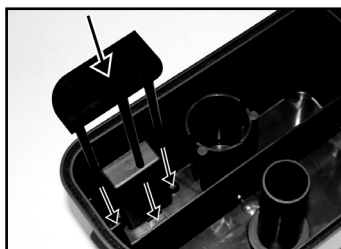

FIGURE 4
4. Insert Sensor Cage over Sensor Block as shown (FIGURE 4). Cage only fits correctly one way; two of the pegs fit into holes on either side of Block. The third peg will then fit into guides in front of Block. Press down firmly on Cage until it is seated securely.